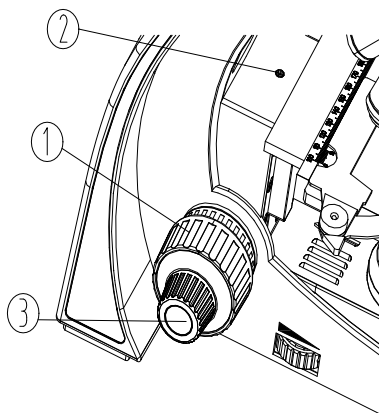

Fig.9
2. Observe the right eyepiece with the right eye. Rotate the coarse focusing knob ① until the image outline appears in the view field (See Fig.9).
3. Rotate the fine focusing knob ③ for clear details.